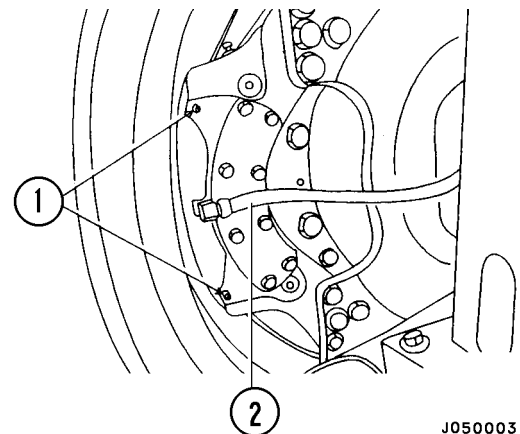

FIGURE 40-15. FRONT BRAKE BLEED PLUGS
2. Depress the brake pedal, then loosen air bleed plug (1, Figure 40-15) 3/4 turn. Tighten the plug again, then release the pedal.